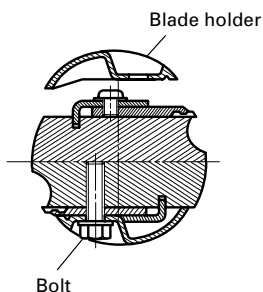

Fig. 14
- (6) As shown in **Fig. 14**, place the blade holder on the completed assembly and fasten it with the three bolts. Ensure that the bolts are securely tightened. Follow the same procedures for the opposite side carbide blade.